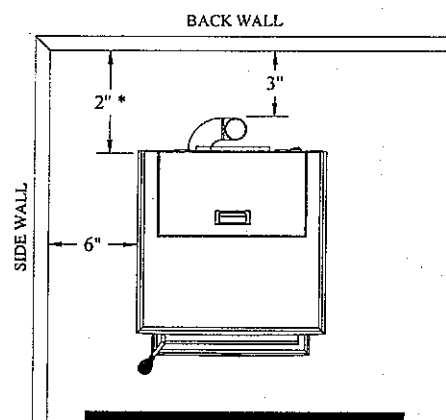

FIGURE 1
The BIO-45 MF has been tested and listed for installation in residential and mobile home. (refer figure 1 & 2)
1. Position stove, adhering to clearances shown in Figures 1 & 2.
5. Position the stove, adhering to the clearances in Figures 1 & 2.
1. Position the stove, adhering to the clearances in Figures 1 & 2. Mark the center of the hole where the pipe is to pierce the masonry chimney.